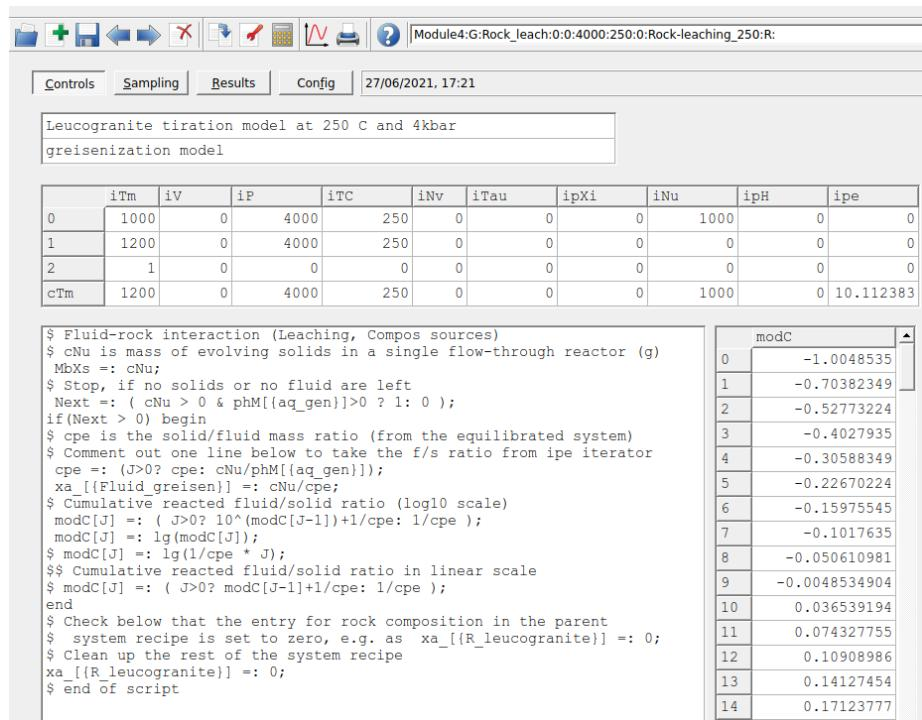

Figure 4.10: Controls window showing the set up for a Process simulation in R mode for the leaching model at 250 °C and 4 kbar.
- In the Controls window change the temperature to 250 °C. Make sure to save the record (Fig. 4.10).